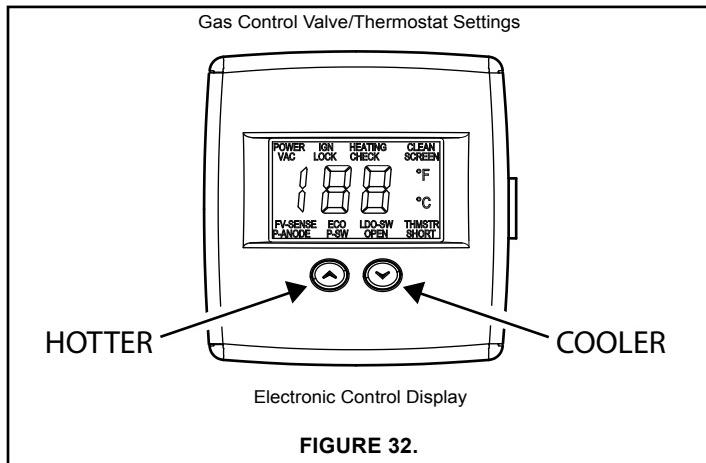

FIGURE 32.
should be used at the hot water taps used by these people or at the water heater. Mixing valves are available at plumbing supply or hardware stores, see Figure 24. Follow manufacturer's instructions for installation of the valves. Before changing the factory setting on the thermostat see Table 5 and Figure 32. Using the lowest hot water temperature that meets your needs will also provide the most energy efficient operation of the water heater. Never allow small children to use a hot water tap, or to draw their own bath water. Never leave a child or handicapped person unattended in a bathtub or shower.
1. "Unlock" the temperature indicators by holding down both "COOLER" and "HOTTER" temperature adjustment buttons at the same time for one second (See Figure 32). The display will light up. The display will only remain on for 30 seconds if no further buttons are pressed. After 30 seconds the control will go back to "Lock" mode ("Lock" mode indicates a temperature setting is locked into the control memory).
- Set the gas control valve/thermostat to its lowest setting by pressing the "COOLER" and "HOTTER" buttons together at the same time holding for 1 second. Then press the "COOLER" button to the lowest setting (Figure 32).